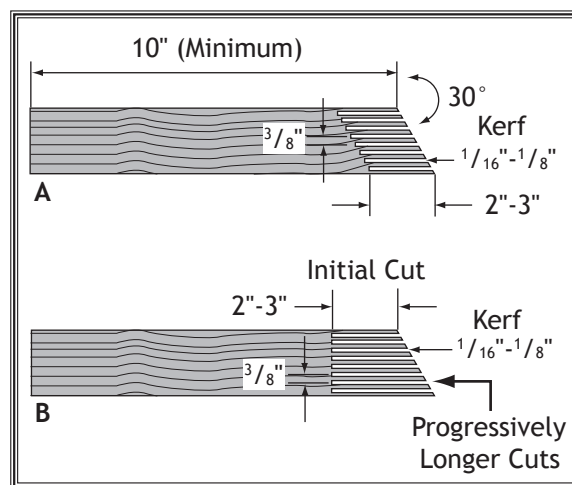

Figure 96. Patterns for making featherboards.
3. Make a series of end cuts with the grain $\frac{3}{8}$ "- $\frac{1}{4}$ " apart and 2"-3" long, as shown in **Figure 96** (A). Alternatively, start cuts at 2"-3" deep, then make them progressively deeper, as shown in **Figure 96** (B).